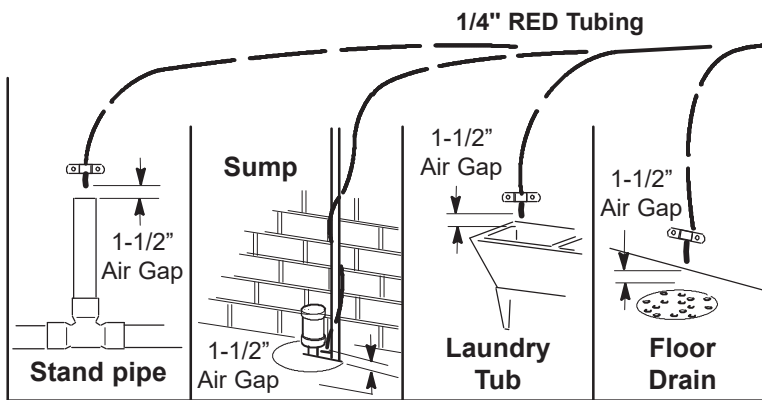

FIG. 11
Route the drain tubing to an existing drain in the house. A floor drain, laundry tub, standpipe, sump, etc. are suitable drain points. See Fig. 11. This type of drain is the preferred over the p-trap drain adapter. Always be sure to provide a 1-1/2" air gap between the end of the hose and the drain point. This will prevent water from backing up into the system.
4. Route the tubing to the drain point and secure at the end with a bracket (not included). See Fig. 11. Provide a 1-1/2" air gap between the end of the tube and the drain. See Fig. 11.